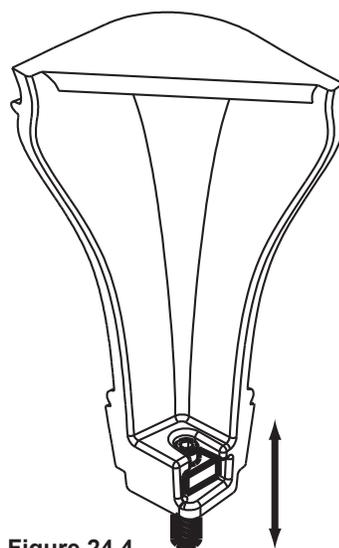

Figure 24.4
10. Use Allen wrench to adjust legs up and down to desired level (**Figure 24.4**).